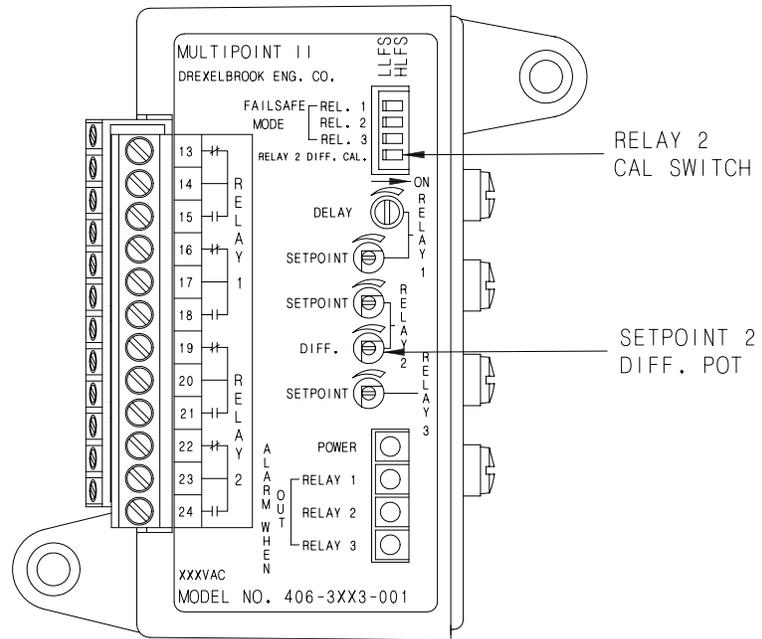

Figure 3-7
13. Turn *Relay 2 Diff Cal* switch on. Then adjust the *Diff* pot on relay 2 clockwise (CW) until the LED changes states. See Figure 3-7. Turn *Relay 2 Diff Cal* switch off.